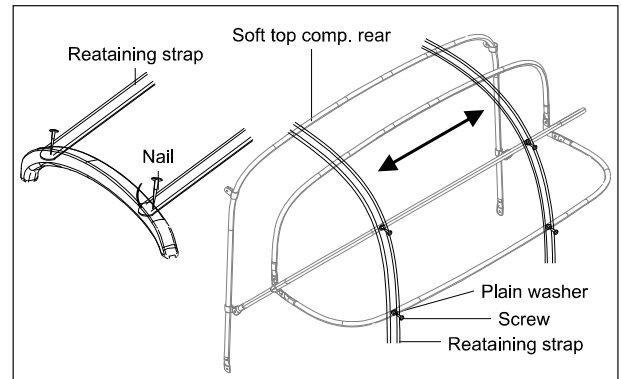

Fig. 9.13
- Pull the soft top retaining strap soft top tightly & assemble it on the wood stick middle soft top in full tension condition by hammering 3 or 4 small nails for each belt. (Fig. 9.13)
- Ensure that the LH and RH retaining strap soft top should be located at an equal distance from the center of the wood stick middle soft top and parallel to each other. (Fig. 9.13)